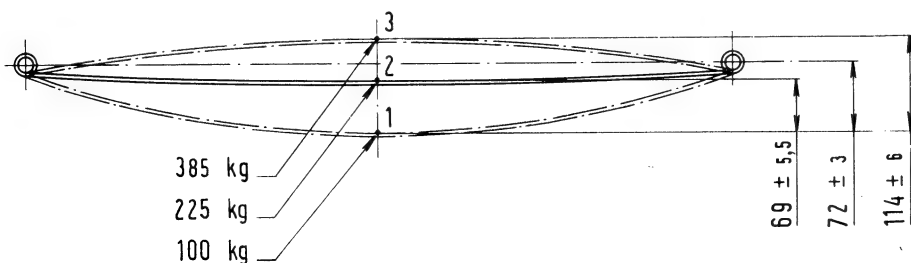

Fig. 158. - Semi-elliptic spring main leaf oscillation diagram and elastic stress data for checking spring characteristics.
- Compare the spring test data with those in the chart on foot of page and fig. 158.